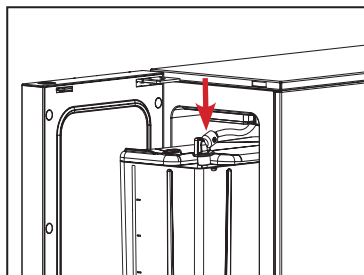

Fig.6
6. Insert the milk suction tube into the smaller sized part of the milk container (located at right-hand side)" (See Fig.6).
6. Pull the milk suction tube out of the tank lid (See Fig.6).